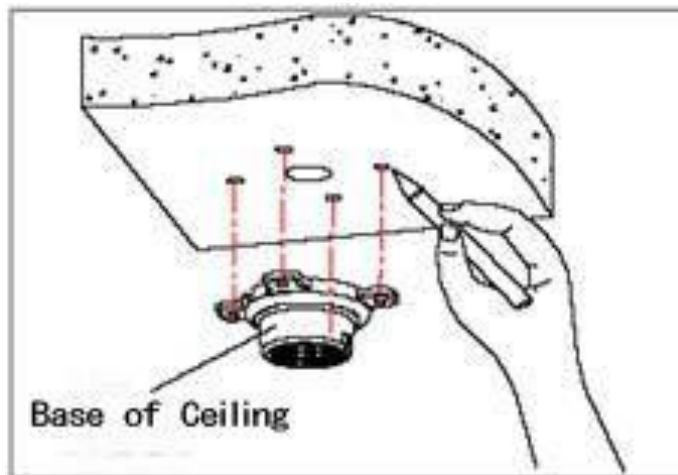

Fig 19
a. As shown in fig 19, with the installation holes in the base of ceiling as pattern, draw punched locations in the ceiling and punch to install M6 expansion bolt.